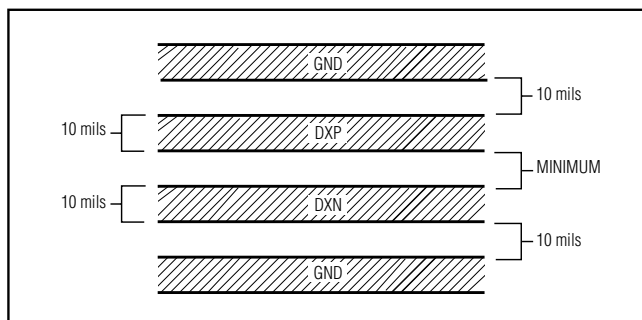

Figure 9. Recommended DXP-DXN PC Traces
- 3) Route the DXP and DXN traces in parallel and in close proximity to each other, away from any higher voltage traces, such as 12VDC. Leakage currents from PC board contamination must be dealt with carefully since a  $20\text{M}\Omega$  leakage path from DXP to ground causes about  $1^{\circ}\text{C}$  error. If high-voltage traces are unavoidable, connect guard traces to GND on either side of the DXP-DXN traces (Figure 9).
- 6) Use wide traces. Narrow traces are more inductive and tend to pick up radiated noise. The 10-mil widths and spacing recommended in Figure 9 are not absolutely necessary, as they offer only a minor improvement in leakage and noise over narrow traces. Use wider traces when practical.